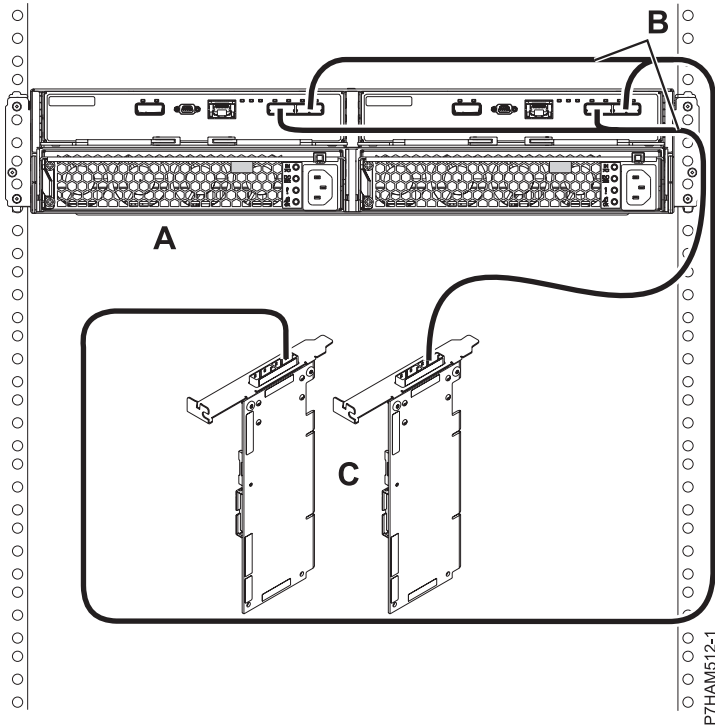

Figure 14. Mode 1 connection of one 5887 disk drive enclosure by using YO cables to a SAS adapter pair
15. Perform the mode 1 connection of one enclosure (A) by using YO cables (B) to a SAS adapter pair (C). See Figure 14 on page 15.